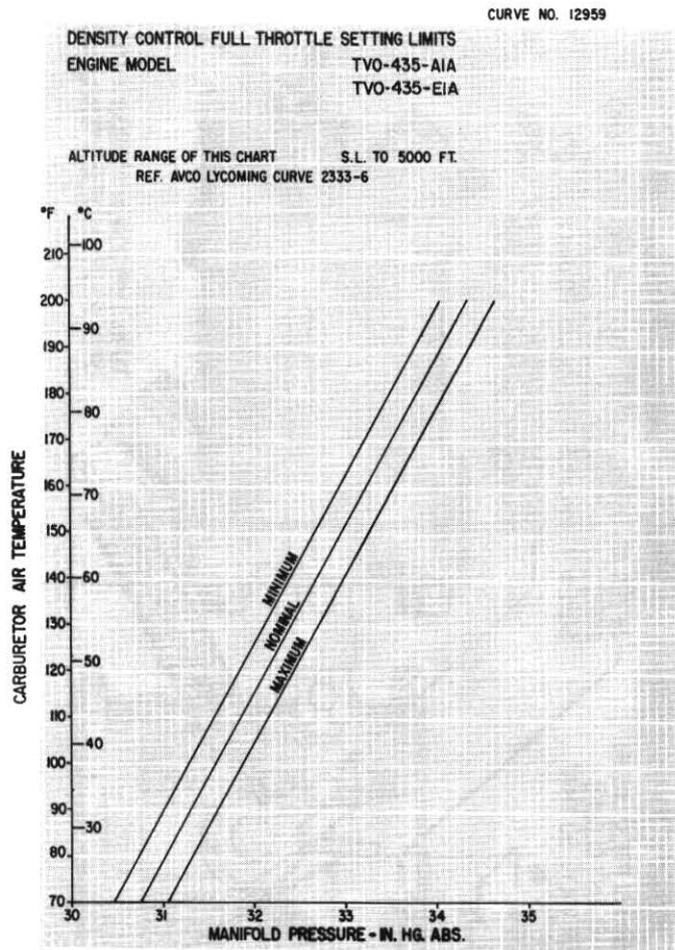

Figure 5-5. Density Control Full Throttle Setting Limits
(3) Increase engine power to a minimum 26" to 28" MAP for 5 to 10 minutes until the filter air and carburetor air temperatures stabilize and recheck pressure. Desirable is 65 to 70 psi. Reset again if necessary. If tie down facilities are not available, operate the helicopter in stabilized flight.
(4) Check carburetor air temperature and full throttle manifold pressure, staying within MAP limitations listed. Using applicable curve for model being checked, compare readings obtained with the calibration limits on curve. Example: (Using figures from figure 5-5) With a carburetor air temperature of 40°C., full throttle manifold pressure should be between 31.4 and 32.1" Hg.
(5) If full throttle manifold pressure is not more than .3" Hg. outside of the minimum or maximum limits of the curve, readjust Benbow valve to obtain proper full throttle manifold pressure. If, after adjusting Benbow valve, pressure cannot be brought within limits, it will be necessary to make an adjustment to the density controller. Adjustment to the Benbow valve cannot be made beyond the point where inlet pressure to the waste gate actuator is less than 60 or more than 70 psi with engine power at least 26" to 28" MAP.
(6) To adjust density controller, break lockwire and remove hex plug in end of controller unit. Insert a screwdriver and turn counter-clockwise to decrease full throttle manifold pressure. The unit is very sensitive and must only be adjusted in small increments. 1/8 turn of the adjustment is equal to approximately 1" MAP.